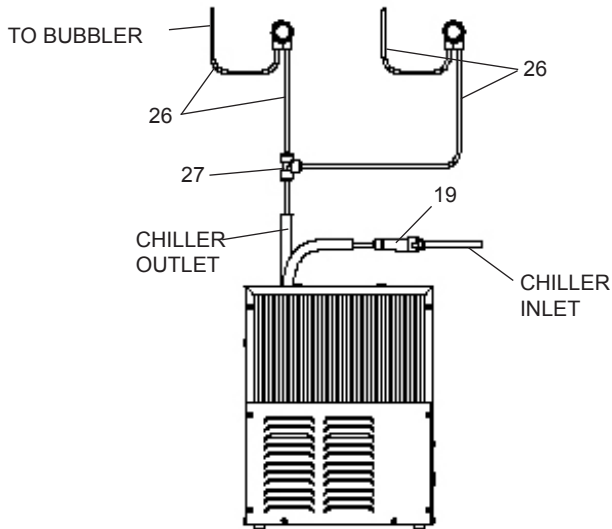

Figure 3 - ERPB Tube Routing
- 3. ERPB Models:** Make connection between remote chiller and building supply line. Inlet port is marked on the chiller (1/4" O.D. copper tube). Bend the copper tube (provided) at an appropriate length from chiller to opening in frame. Install the in-line strainer (provided with chiller) by pushing it until it reaches a positive stop, approximately 3/4" (19mm) on the marked chiller inlet port. Connect building supply line to strainer. (See Figure 3)